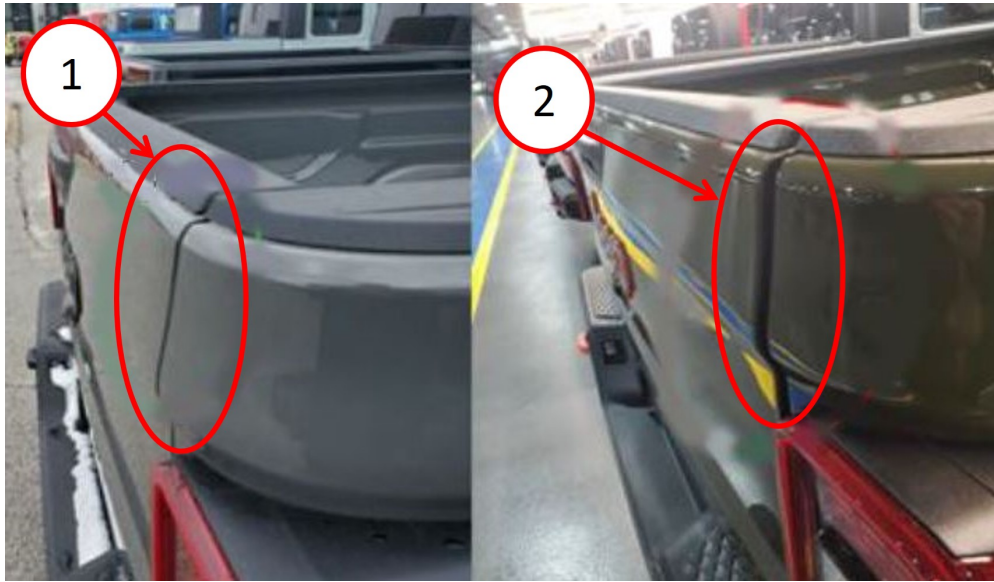

Fig. 1
2. Inspect the right side of the tailgate for an uneven (not flush) gap (Fig. 1) to the cargo box.
3. Was there an uneven gap (Fig. 1) on the right side of the tailgate to the cargo box?